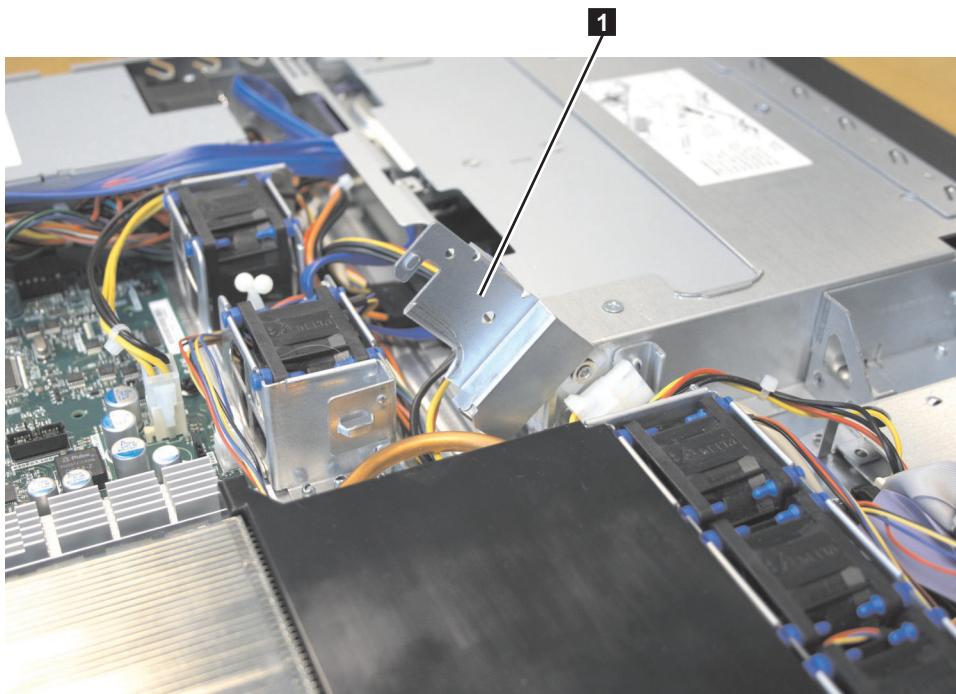

Figure 124. Air deflector for the SAN Volume Controller 2145-8A4 power supply
1. Make sure that the air deflector **1**, which is shown in Figure 124, is in the open position.
5. Rotate the air deflector (**1** in Figure 124 on page 142) into place, making sure not to pinch any cables beneath it, and press it down firmly.